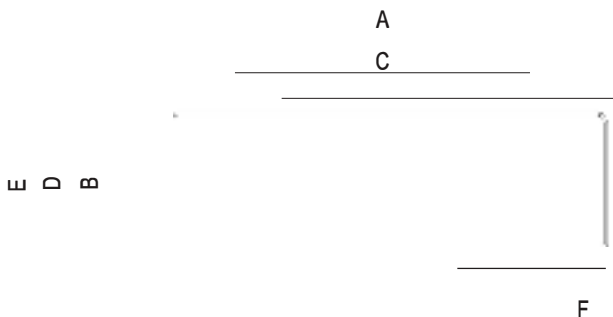

Fig.1
- (1) Use the washers to fasten the machine at the foundation bolts.
- (2) When fastening the outdoor unit with the foundation bolts, the fasten holes position as the Fig.1.